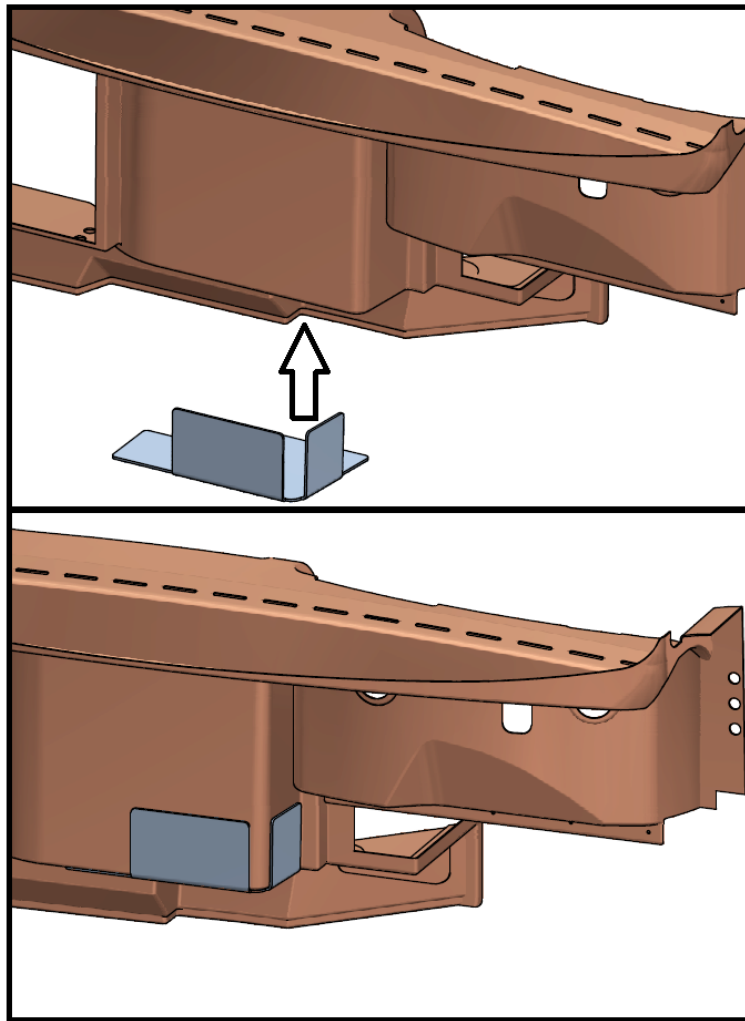

Figure 1: Plate Placement, as Seen From Front of the Bus Looking Rearward.
2. Ensure that the fiberglass mating surfaces are thoroughly cleaned of any paint, corrosion protection or insulation. Refer to Figure 1 for placement. Area can be accessed from under the bus, behind the front bumper on.